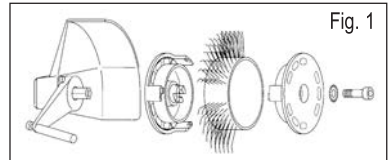
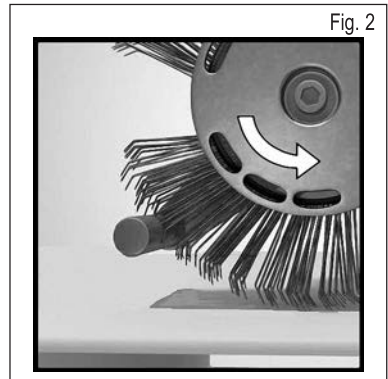

Fig. 1
Fig. 2
1. Interrupt supply of power and then fasten Bristle Blaster® 23 mm belt correctly to the tool using the related Adapter System (pay attention to direction of travel) and the related serrated lock washer and screw. **See Fig. 1 and Fig. 2**
Are you using an Bristle Blaster® Belt with the wrong direction of travel? – Fit the brush belt such that it runs in the correct direction (see section 5, Placing in operation, Fig. 2).